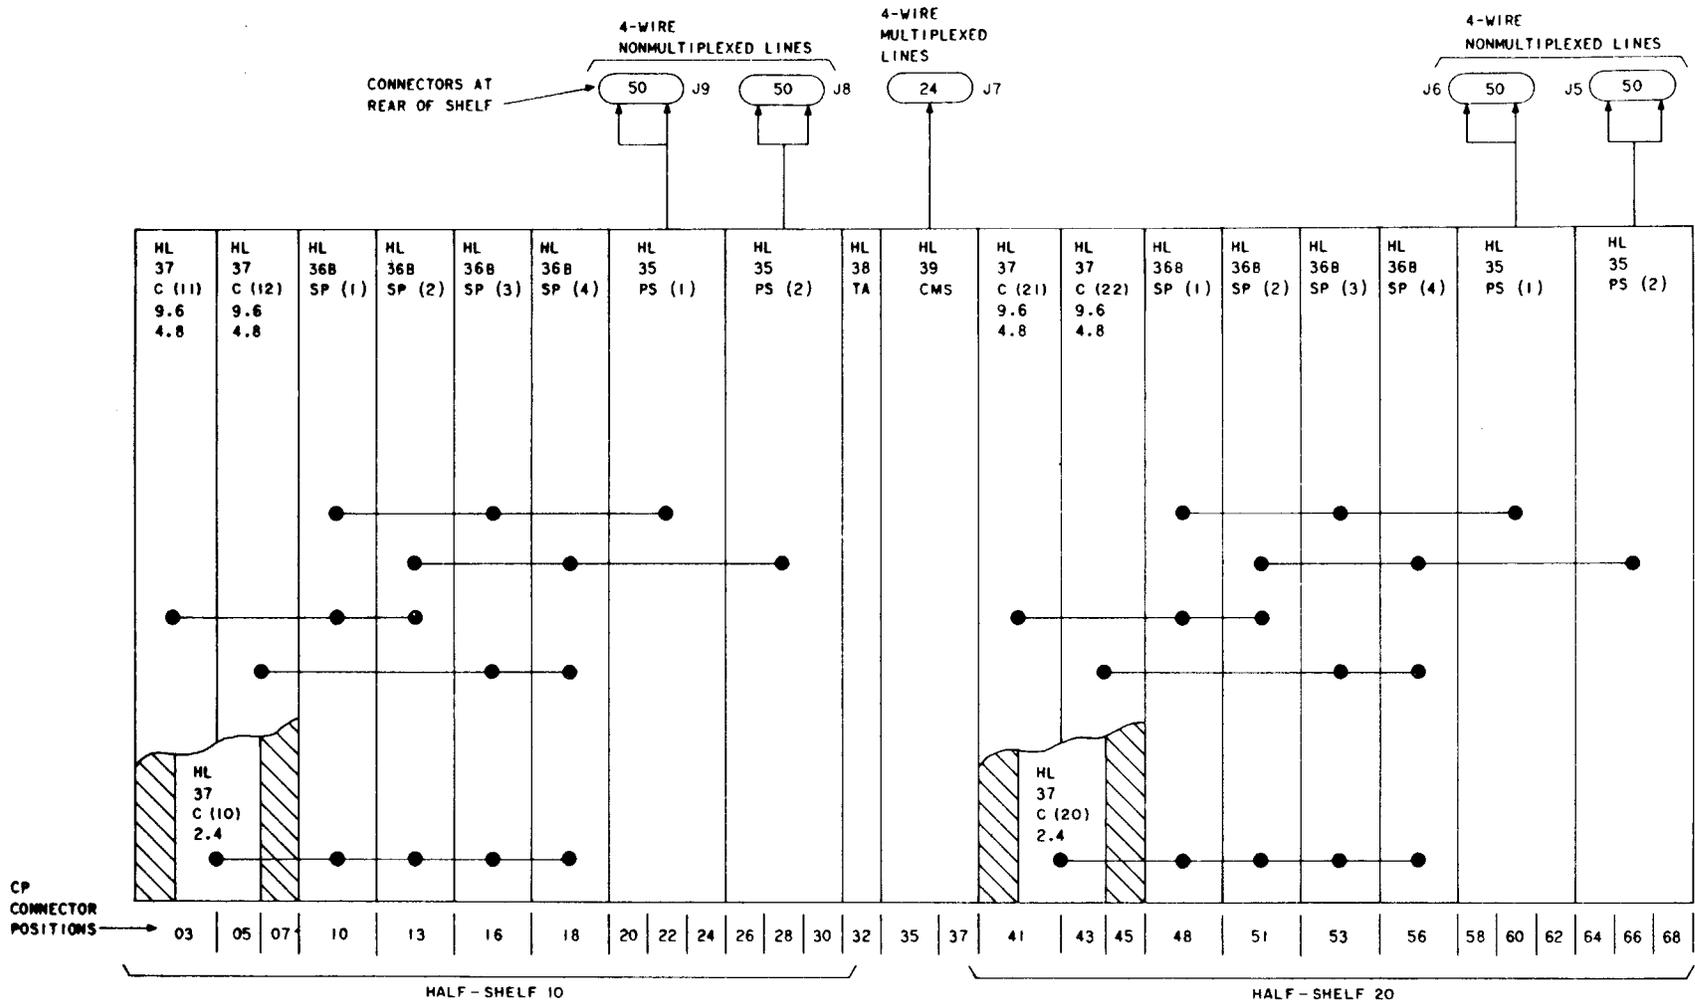

Fig. 3—Cable Connectors and Circuit Pack Interconnection
24	<p>Referring to Fig. 3, at the back of the SRDM shelf, connect one end of the A25D cable to the connector associated with shelf position PS (1) in the half-shelf under test.</p>
- 34 On the SRDM shelf, move the ◆HL36B◆ CP from shelf position SP (1) to SP (3).
- 36 At the back of the SRDM shelf, disconnect the A25D cable and connect it to the connector associated with shelf position PS (2) in the half-shelf under test (see Fig. 3).
- 37 On the SRDM shelf, move the ◆HL36B◆ CP from shelf position SP (3) to SP (2).
- 39 Move the ◆HL36B◆ CP from shelf position SP (2) to SP (4).
- 45 On the SRDM shelf, remove the ◆HL36B◆ CP from shelf position SP (4).
- 46 With no ◆HL36B◆ CP in place in the SRDM under test, verify transmission through all 20 ports according to Steps 28 through 31, using 66E connecting block terminals according to Table A and the A25D cable connection at the back of the SRDM shelf according to Fig. 3.